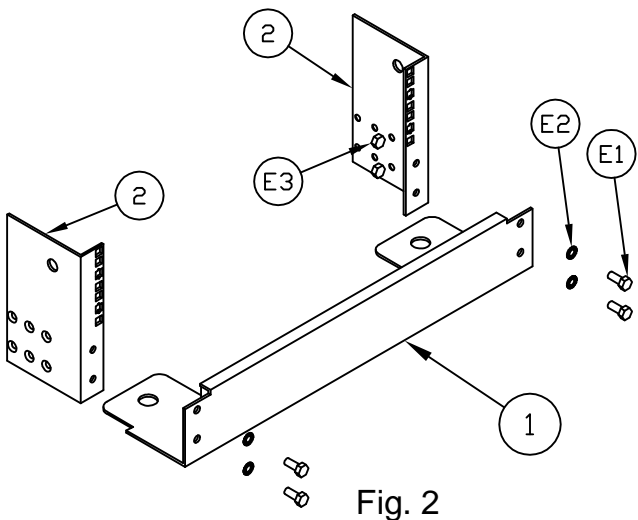

Fig. 2
2. Attach Base Angle Weldment (1) to Rack Mount Rail (2) using Screws (E1), Washers (E2), and Nuts (E3). See Fig. 2